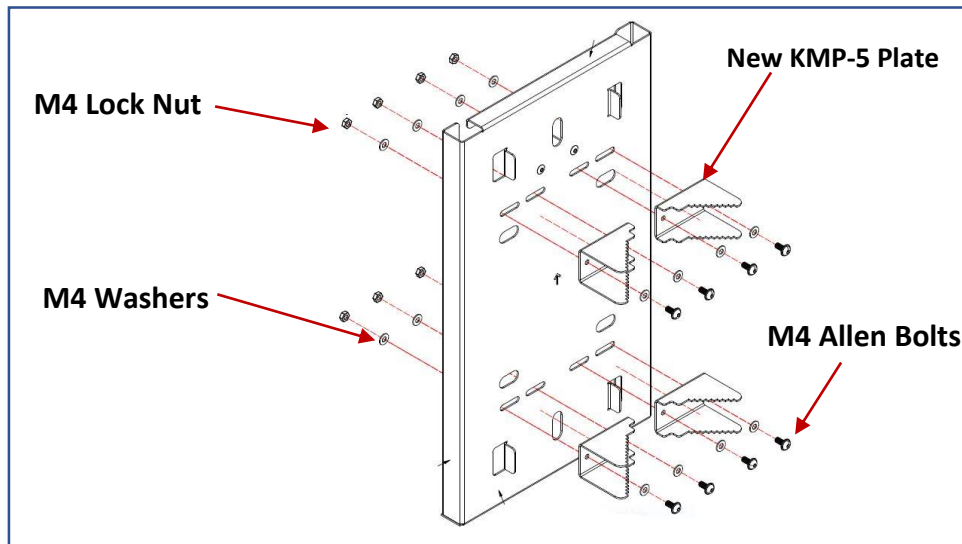

Fig.9
STEP 2: Join KMP-5 plates (P7) with C-Clamp (P3) using M4 Allen Bolts, M4 Washers and M4 Lock Nut. Fig.9